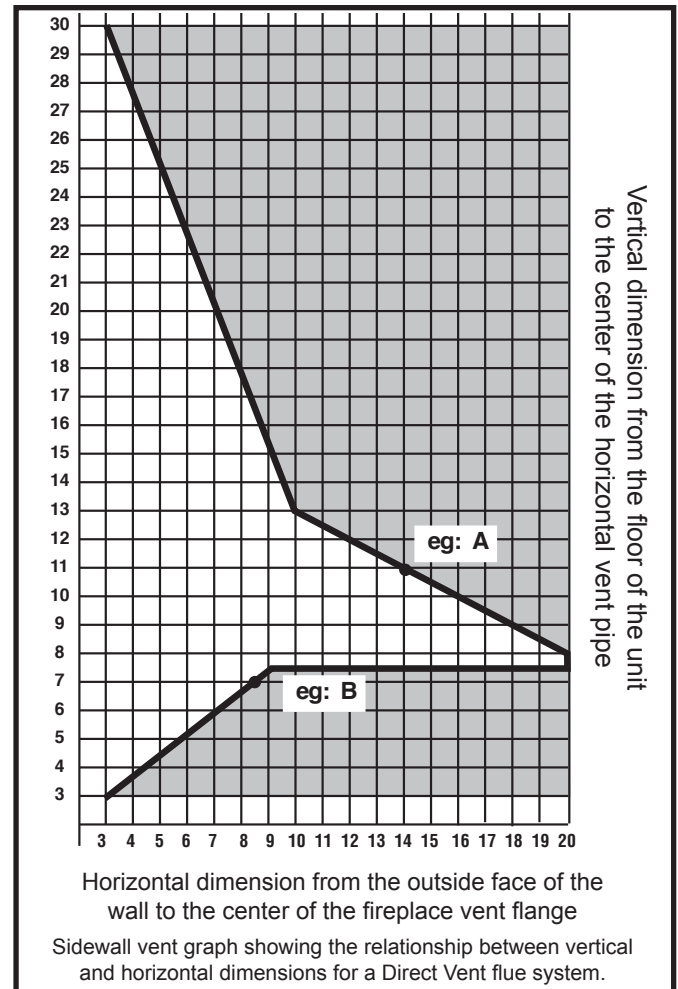

Fig. 20 Sidewall venting graph. (Dimensions in feet)
1. Determine the height of the center of the horizontal vent pipe exiting through the outer wall. Using this dimension on the Sidewall Vent Graph (Fig. 20) locate the point intersecting with slanted graph line.